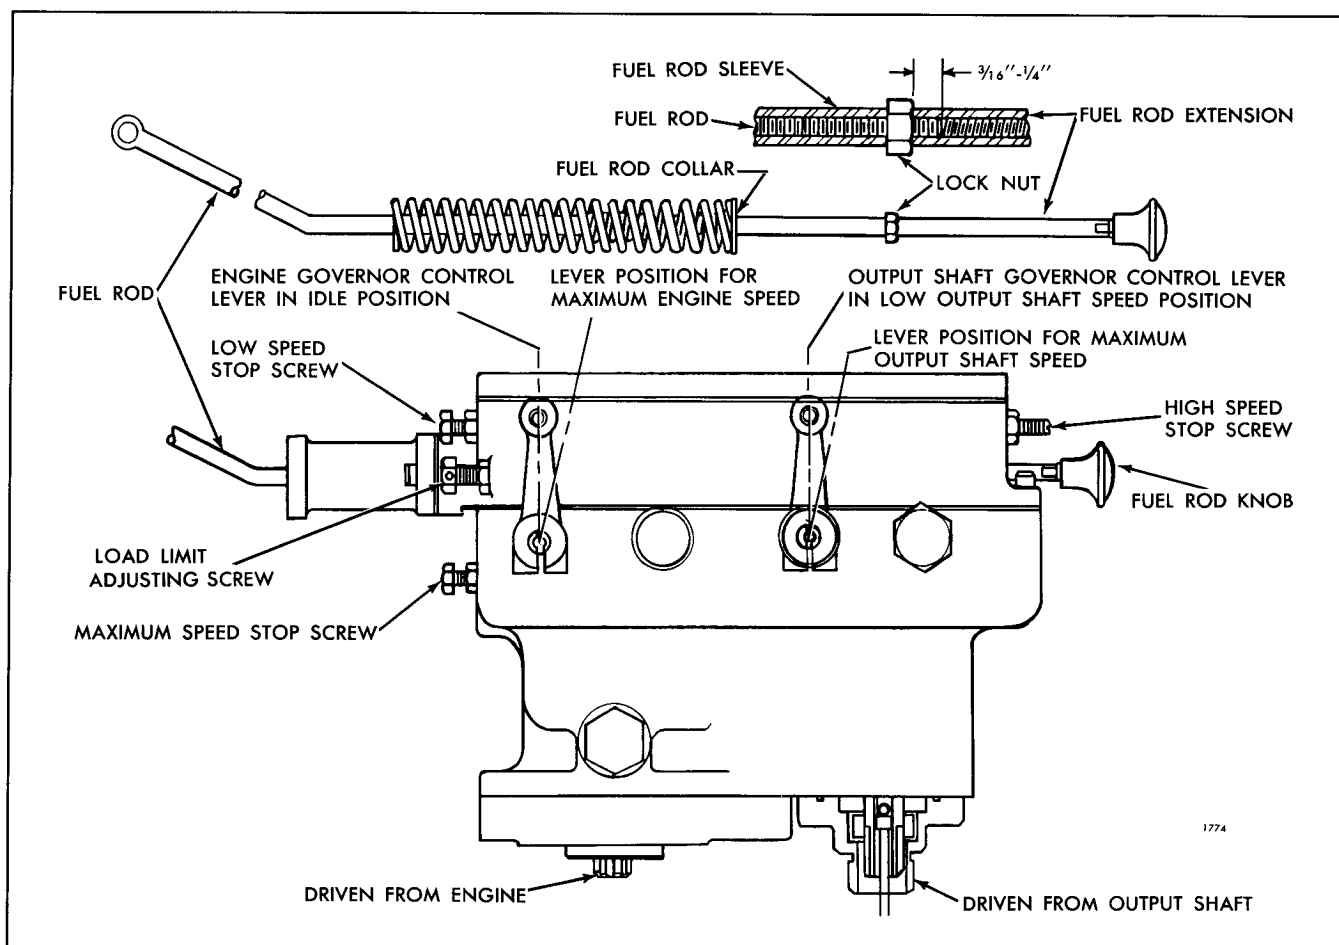

Fig. 1 - Two Lever Dual Hydraulic Governor Assembly
The governor, Figs. 1 and 2, is a compound governor assembly and consists of two sections; one driven conventionally by the engine, and one driven by the torque converter output shaft through a flexible shaft.
2. Loosen lock nut on engine governor load limit adjusting screw, Fig. 1. Back the screw out until end of screw is flush with face of boss and tighten lock nut.